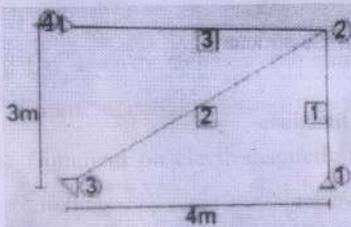

Fig.1.
4. If member 2 of the framed structure shown in Fig. 1 is shortened by 0.01 m. Determine the force in members. Assume $AE = 8 \times 10^6$ N.